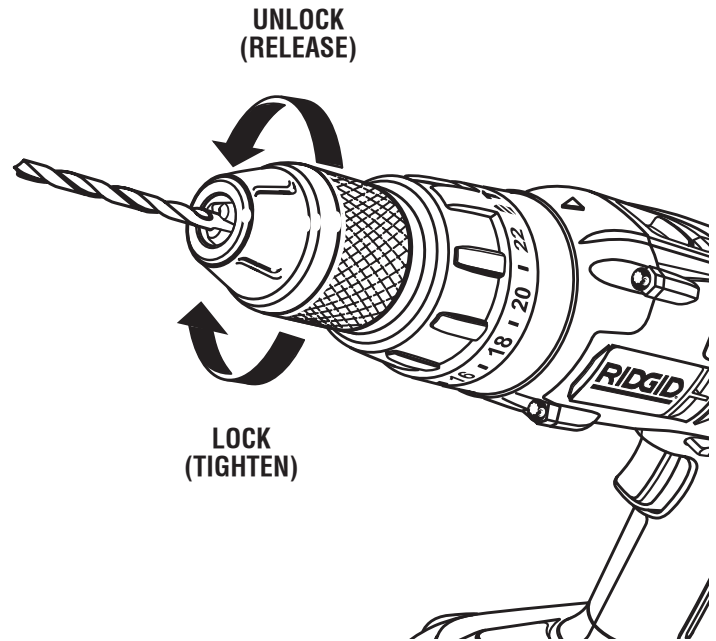

Fig. 9
See Figure 9 - 10
- Insert drill bit straight into chuck the full length of the jaws as shown in figure 9. The drill bit must be inserted past the first set of carbide inserts, to a depth of 7/8 in.
See Figure 9.